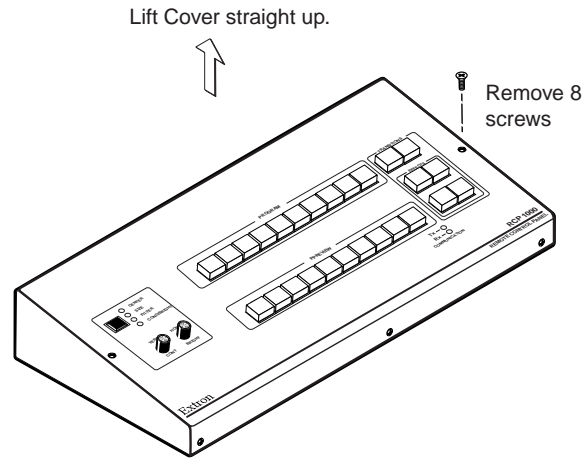

Figure A-1 — Removing the cover
2. Remove 8 screws from the back, top, and front of the cover (figure A-1).